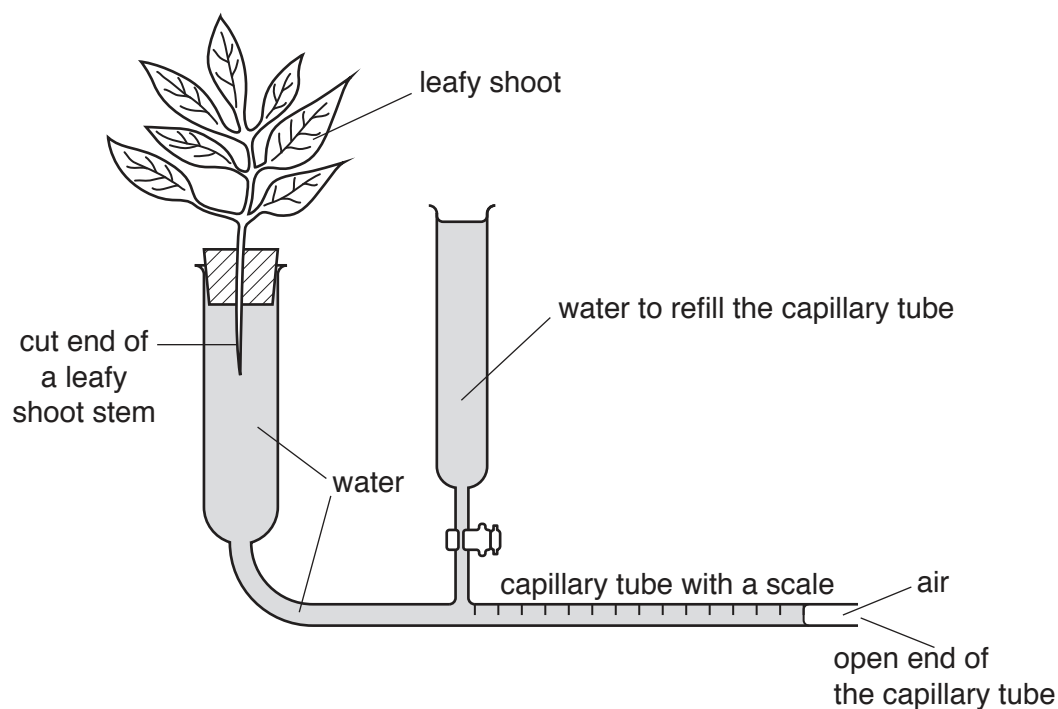

Fig. 2.3
- (d) Fig. 2.3 shows the apparatus used to measure water uptake by a leafy shoot. The leafy shoot is sealed tightly into a glass tube which is connected to a capillary tube containing water.
Describe how you would use the apparatus in Fig. 2.3 to investigate the effect of temperature **OR** humidity on the rate of water absorption by a leafy shoot.